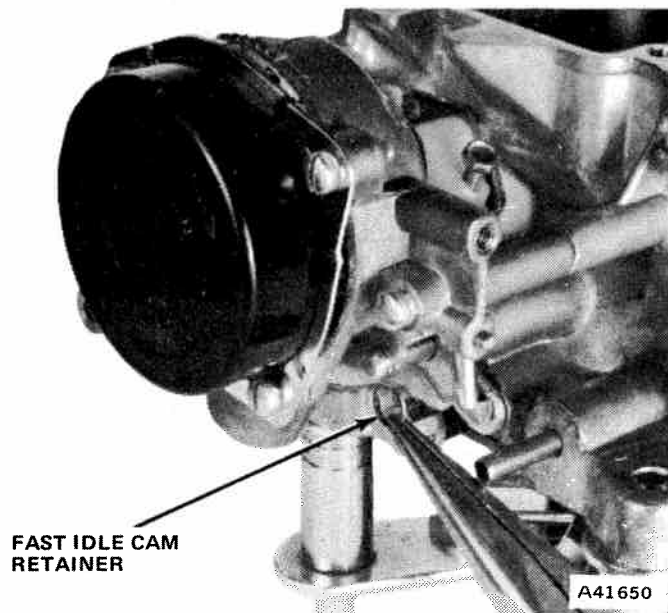

Fig. 4-41 Removing Fast Idle Cam Retainer
- (7) Remove fast idle cam reatiner (fig. 4-41).
- (8) Remove thermostatic choke spring housing retaining screws and clamp, housing, and gasket.